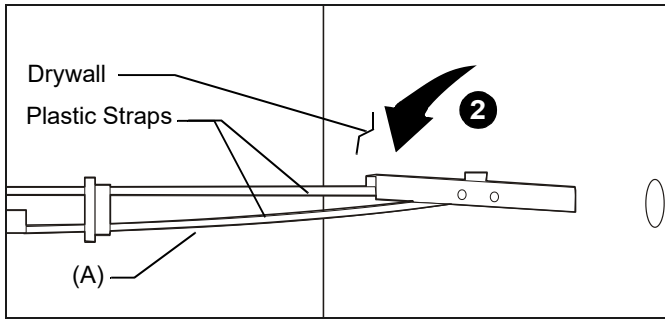

Figure 5
2. Hold metal channel on anchor (A) flat alongside plastic straps and slide channel through hole. (See Figure 5)